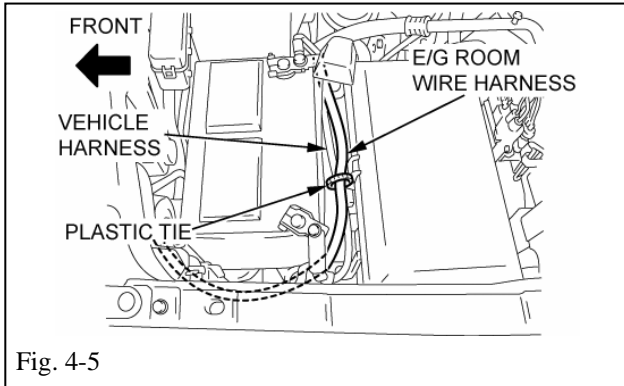

Fig. 4-5
(e) Route E/G R W as shown (from negative battery area to positive battery area) and around to the lower front area of the battery. Secure the battery lead portion of the E/G R W to the vehicle wire harness using one (1) plastic ties (150 mm black). (Fig. 4-5)